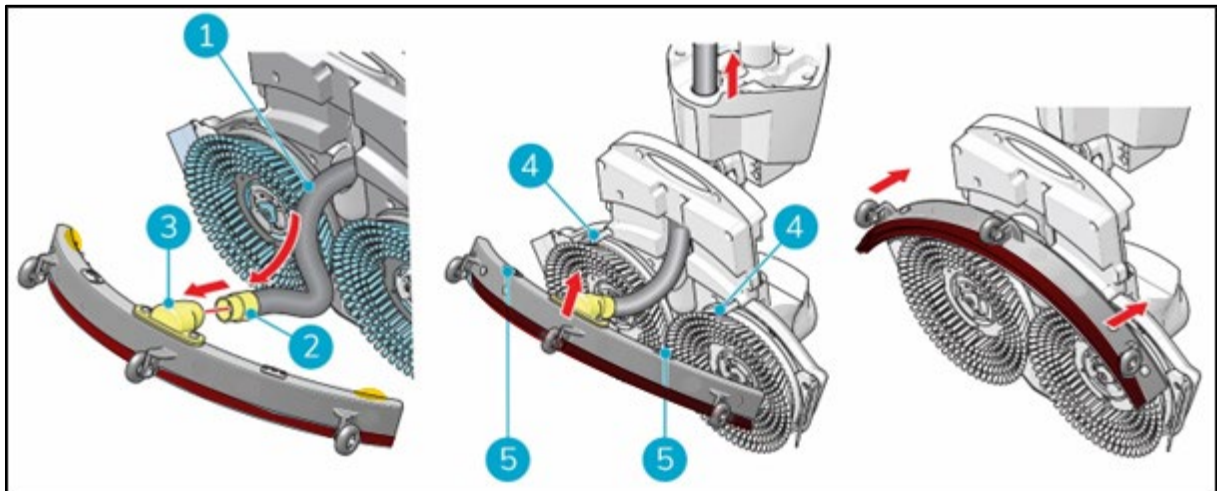

Figure 11
1. Take the vacuum hose (Figure 11, pos 1).
2. Insert the hose connector (11, pos 2) in the squeegee (Figure 11, pos 3).
3. Twist the hose connector 1/4 turn for a firm fit (Figure 11, pos 2).
6. Align the pins on the scrub deck (Figure 11, pos 4) with the holes on the squeegee (Figure 11, pos 5).